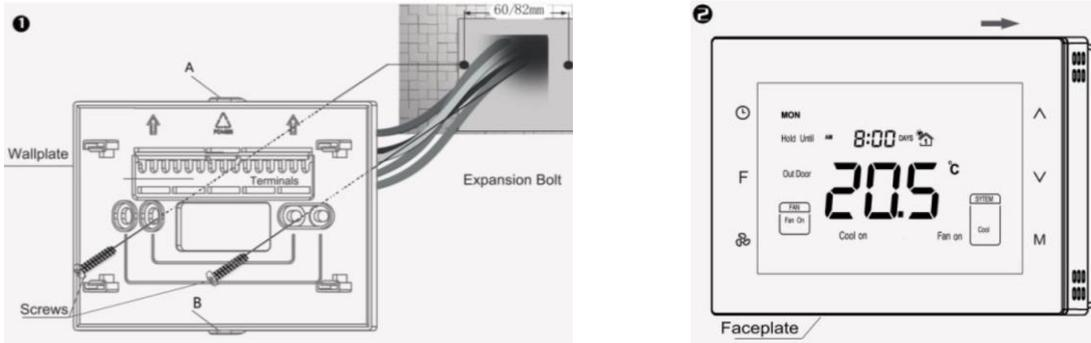

Figure 35: MCO Heat pump thermostat installation
**Step 1:** Separate the wall plate from the faceplate by pulling them at A and B, and then insert all wires into the right terminals according to the wiring diagram. Fixed the wall plate into the junction box with M4\*18mm screws (Figure 35).